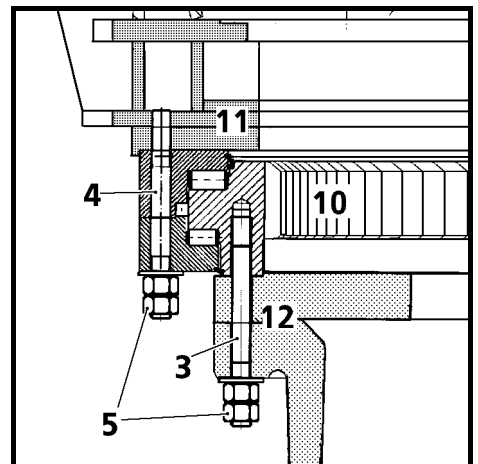

Fig. 49
The stud bolts M48 (Fig. 49, pos. 4) for the mounting of the swing ring 10 to the uppercarriage 11 must be tensioned to 1070 kN, which corresponds to an elongation of 1,25 mm of the bolts 4. the stud bolts M48 (pos. 3) for the mounting of the swing ring 10 to the undercarriage 12 must be tensioned to 1060 kN, which corresponds to an elongation of 0,9 mm of the bolts 3. tighten the protection nuts 5 on the bolts 3 and 4 between 500 and 1000 Nm.